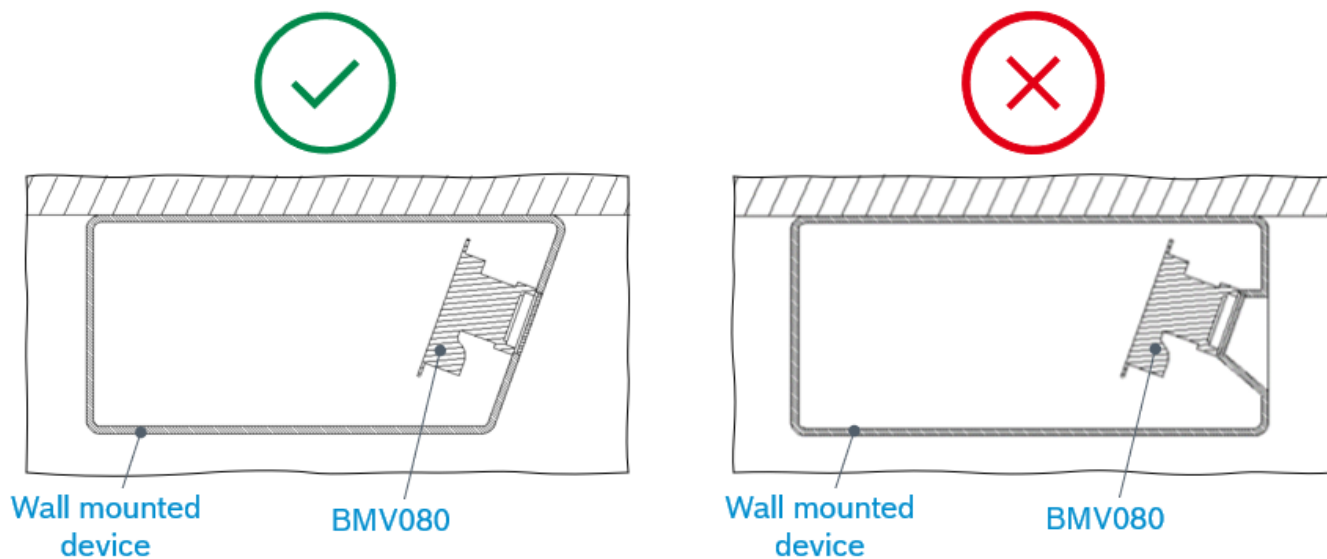

Figure 11: Schematic of BMV080 (facing left or right) when mounted closer to wall on host to ensure laminar airflow
- It is recommended to ensure laminar air flow conditions to get best BMV080 sensing performance by following the guideline as per Figure 11